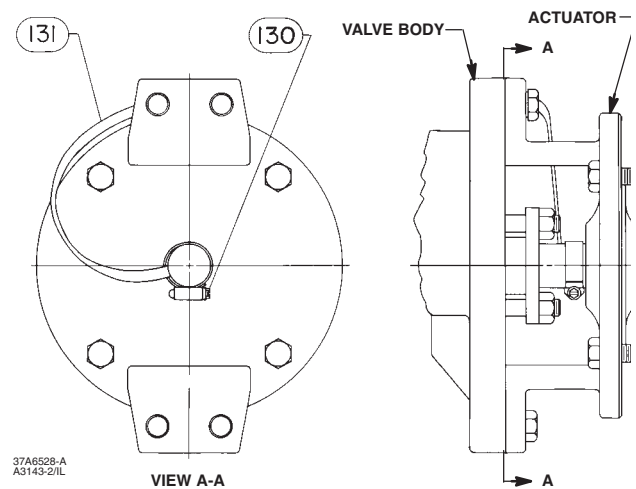

Figure 4. Optional Shaft-to-Body Bonding Strap Assembly
4. Attach the bonding strap assembly (key 131, figure 4) to the shaft with the clamp (key 130, figure 4).